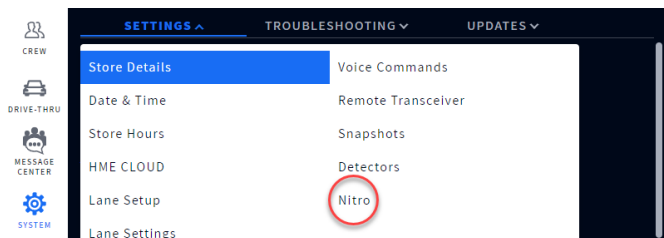

Fig. 4.2
2. Navigate to the **SYSTEM** screen, and from the **SETTINGS** drop-down list, select “Nitro.” See Fig. 4.2.